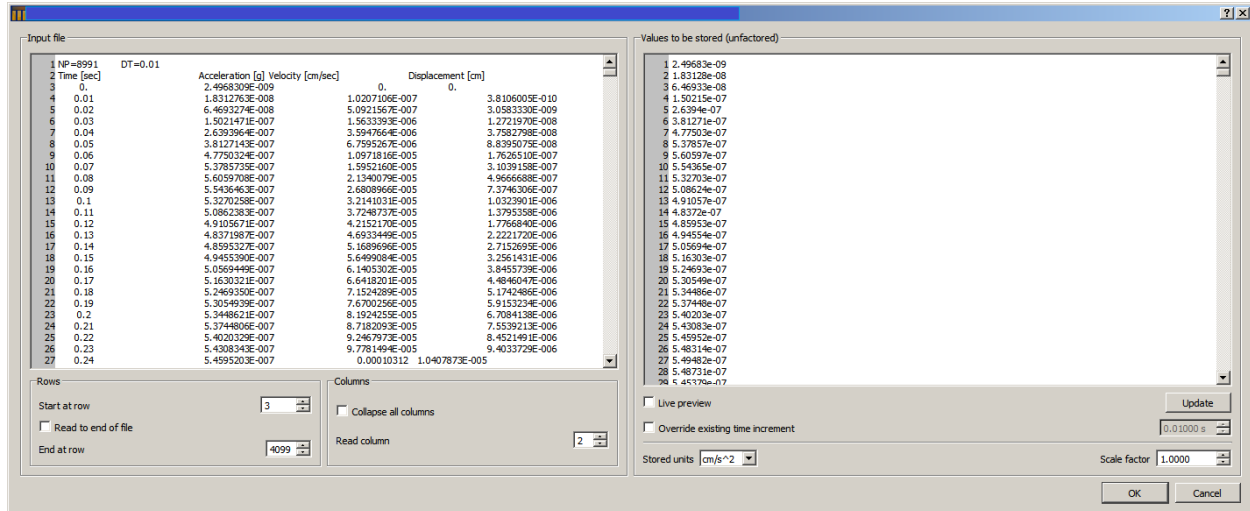

Figure 4-21 Selected options for importing acceleration data
- iii. Click ‘Import from File’ button and select a ground motion time-record. For this example, we will use the `OLE_CHICHI_CHY029E.dat` file that is available in the `Examples/example6` directory. Specify the following options in the import dialog window (Figure 4-21)